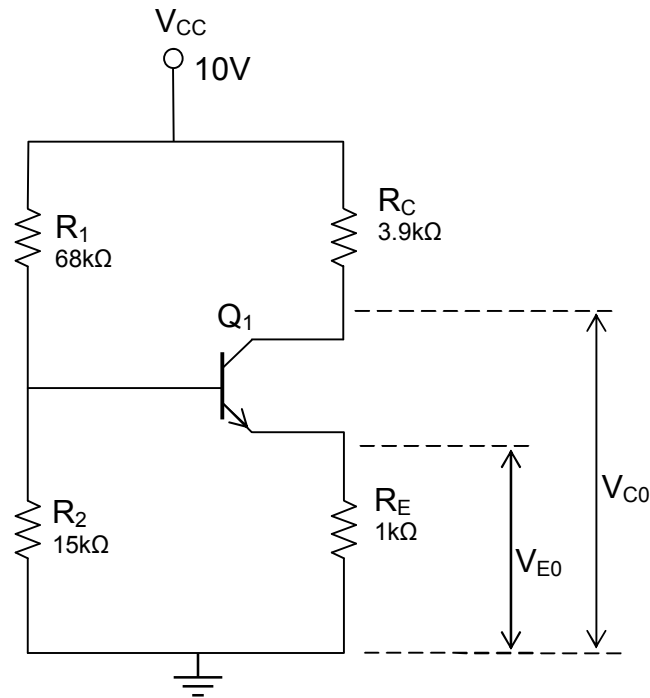

Figure 7.2: Common-emitter circuit for Q-point measurement.
2. Set up the circuit as shown in Figure 7.2 with  $V_{CC} = 10.0V$ . Use the DMM to measure  $V_{C0}$  and  $V_{E0}$ . You can calculate  $I_E (\approx I_C)$  using  $V_{E0}$  and  $R_E$ . Then, obtain the Q-point ( $V_{CE}$  and  $I_C$ ). Draw your load line and Q-point on your transistor characteristic.
Figure 7.3: The common emitter circuit of Figure 7.2 with added capacitors and an input signal  $V_s$  provided by the function generator and the voltage divider,  $R_{S1}$  and  $R_{S2}$ .